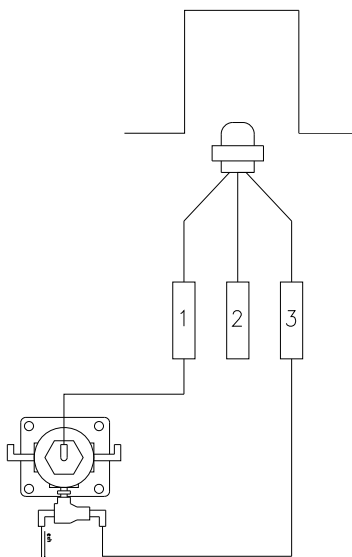

Figure 4
- 2) Run a 3/8" air hose from the pilot valve's "IN N.C." port fitting, up the inside rail of the tractor chassis, and connect it to the union fitting labeled "3" from the cab. (See figure 4)
- 3) Run a 3/8" air hose from the pilot valve's pilot port fitting (top of valve), up the inside rail of the tractor chassis, and connect it to the union fitting labeled "1" from the cab. (See figure 4)